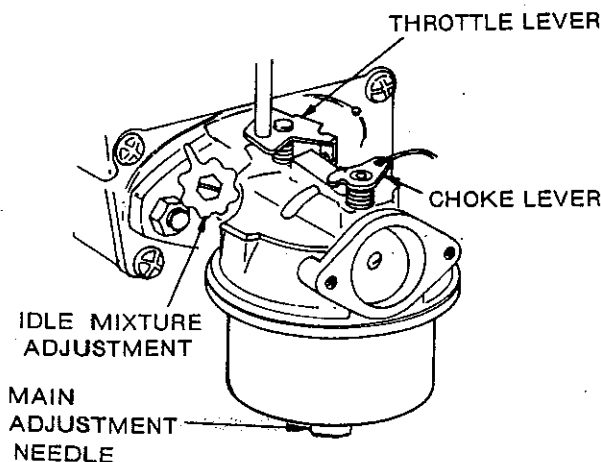

Figure 12. View of typical carburetor adjustment points.
- A. The idle mixture can be adjusted on all models; main (high speed) mixture and idle speed can be adjusted on many models. To adjust, refer to Figure 12 and proceed as follows: